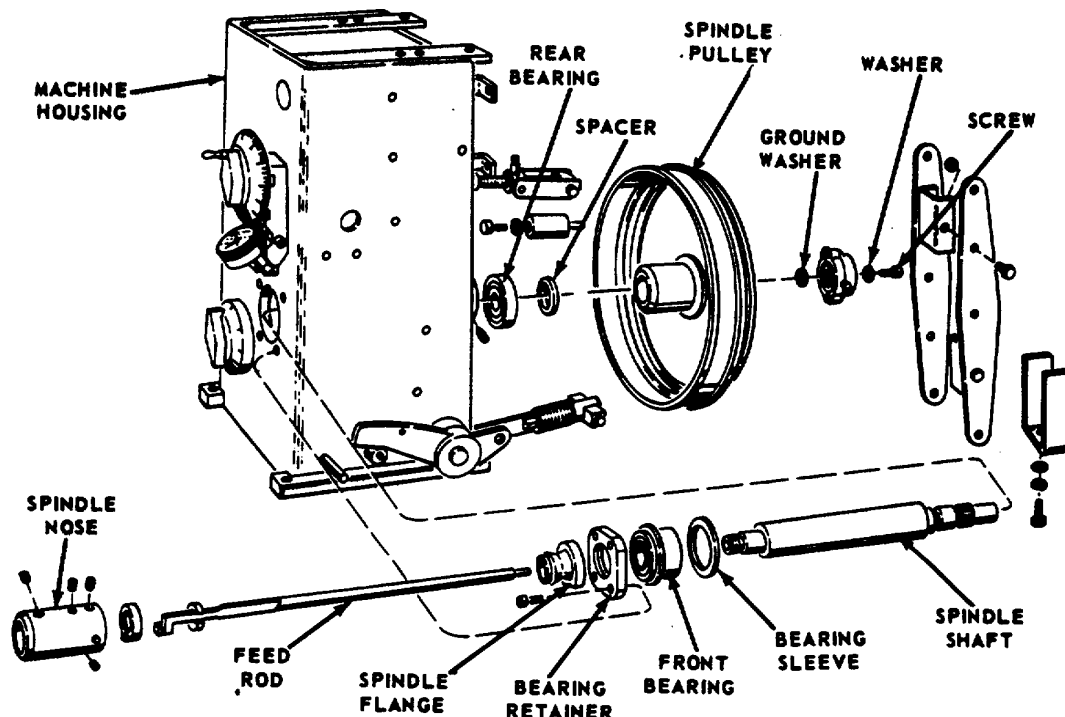

FIGURE 126
- (j) Withdraw spindle through front of Machine Housing. Save Spacer and Ground Washer (see Figure 126).